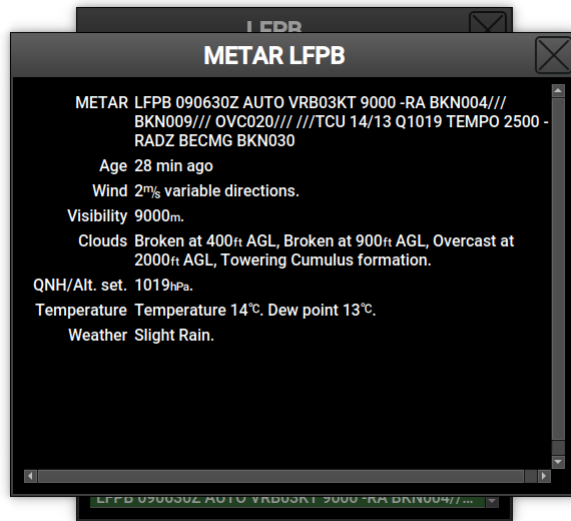

Figure 35: An example of interpreted METAR report.
- Weather** section is available when Nesis is connected to the Internet. METAR reports are shown. In addition, when the METAR report is selected, a new window is opened, where the METAR report is interpreted in a more friendly form. For an example, see Figure 35. Full METAR report is shown on the top and the interpreted part below. Note that we try to interpret as much as possible, but some parts may be too difficult to handle.